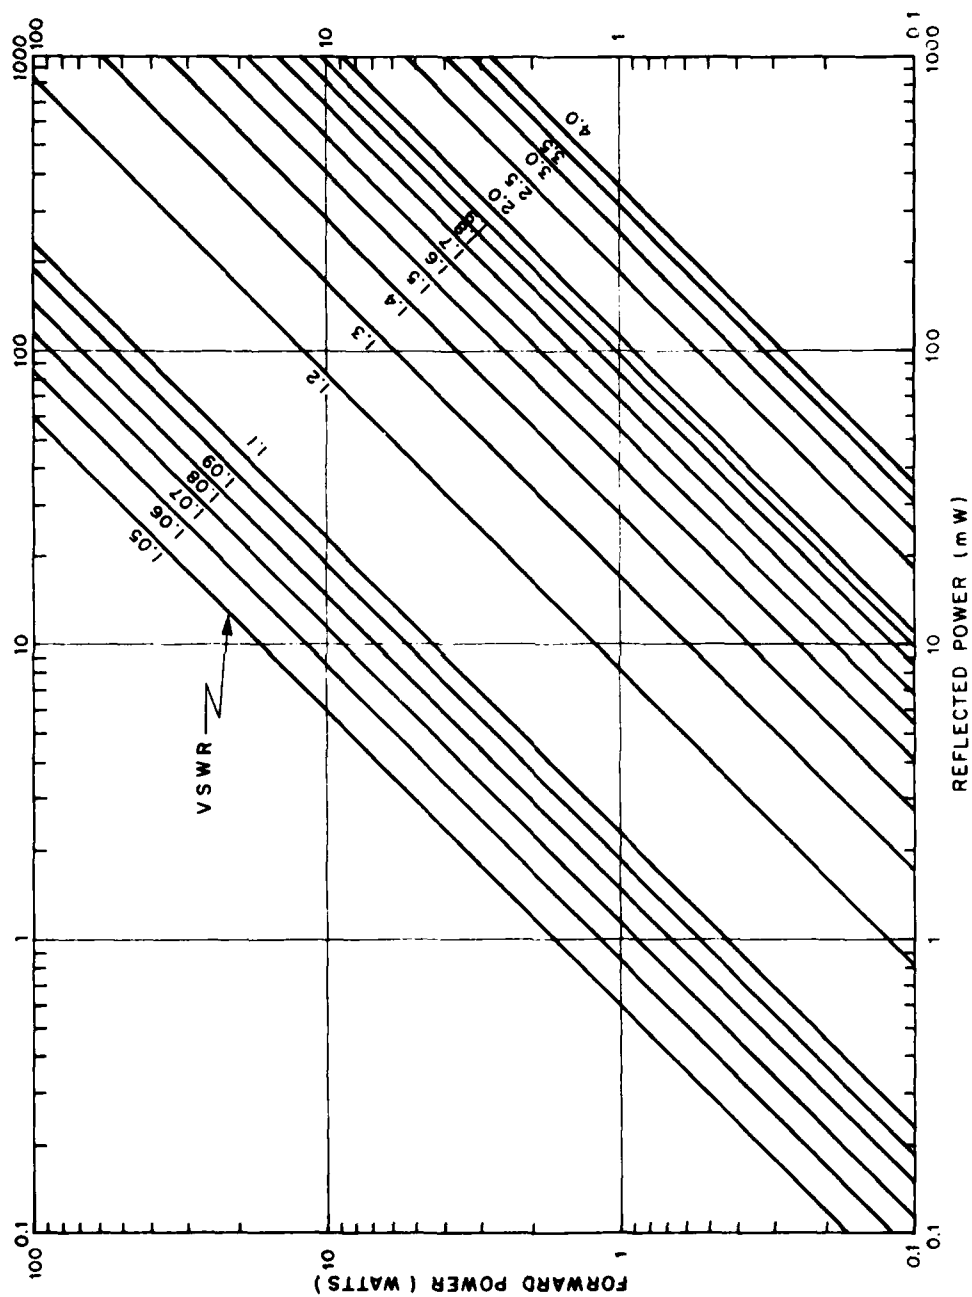

Figure 58. VSWR Graph
(14) Compare the reverse and forward power measurements to obtain VSWR from the graph in Figure 58. VSWR should not exceed 1.2.